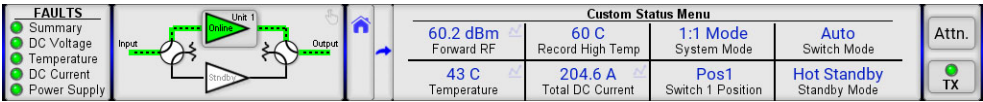

Figure 12: Status > Custom Status Menu (Custom Items Selected)
Figure 12 shows an example of a Custom Status menu, after the user has selected the parameters to be shown. See the **Config Status** section of the Options Menu for details on how to select up to eight (8) parameters to be displayed on this screen.